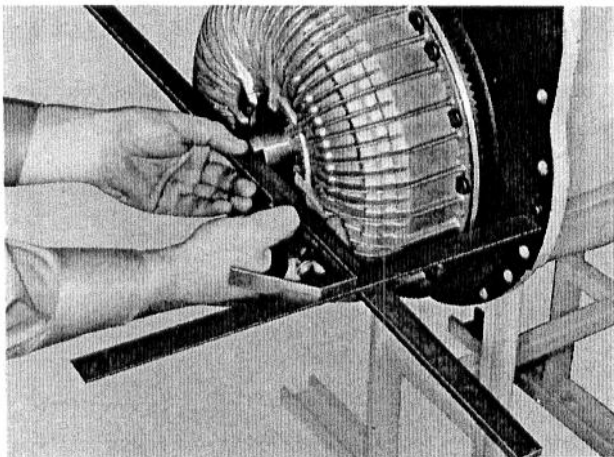

FIG. 10 — MEASURING IMPELLER HUB DISTANCE FROM REAR FACE OF ENGINE BLOCK
3. Lay a straightedge across the impeller hub (not on the lugs) and measure the distance from the rear face of the engine to the straightedge, as shown in Fig. 10. This distance must be maintained to not less than 6.940 inch (6-61/64 inch) and not more than 7.022 inch (7-1/64 inch).